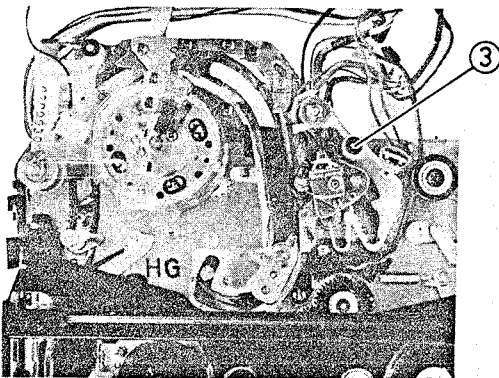

Fig. 2-103 Guide Arm Assembly Removal
Guide Arm Assembly Removal (Fig. 2-103)
3. Remove one (1) washer and pull out the guide arm assembly. (See Fig. 2-103)